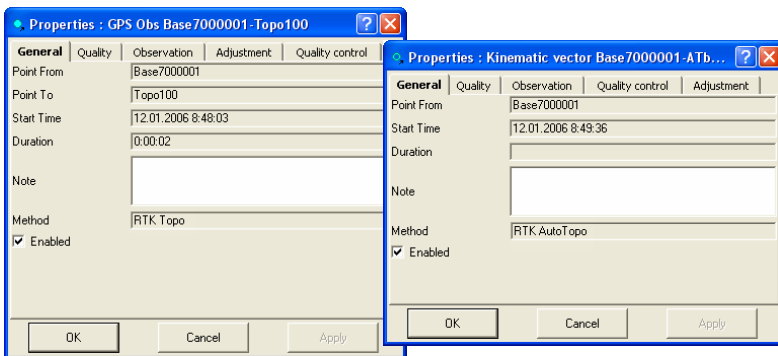

Figure 5-106. General Properties
- View or edit *General* tab fields (Figure 5-106); available fields differ depending on the type of observation selected.